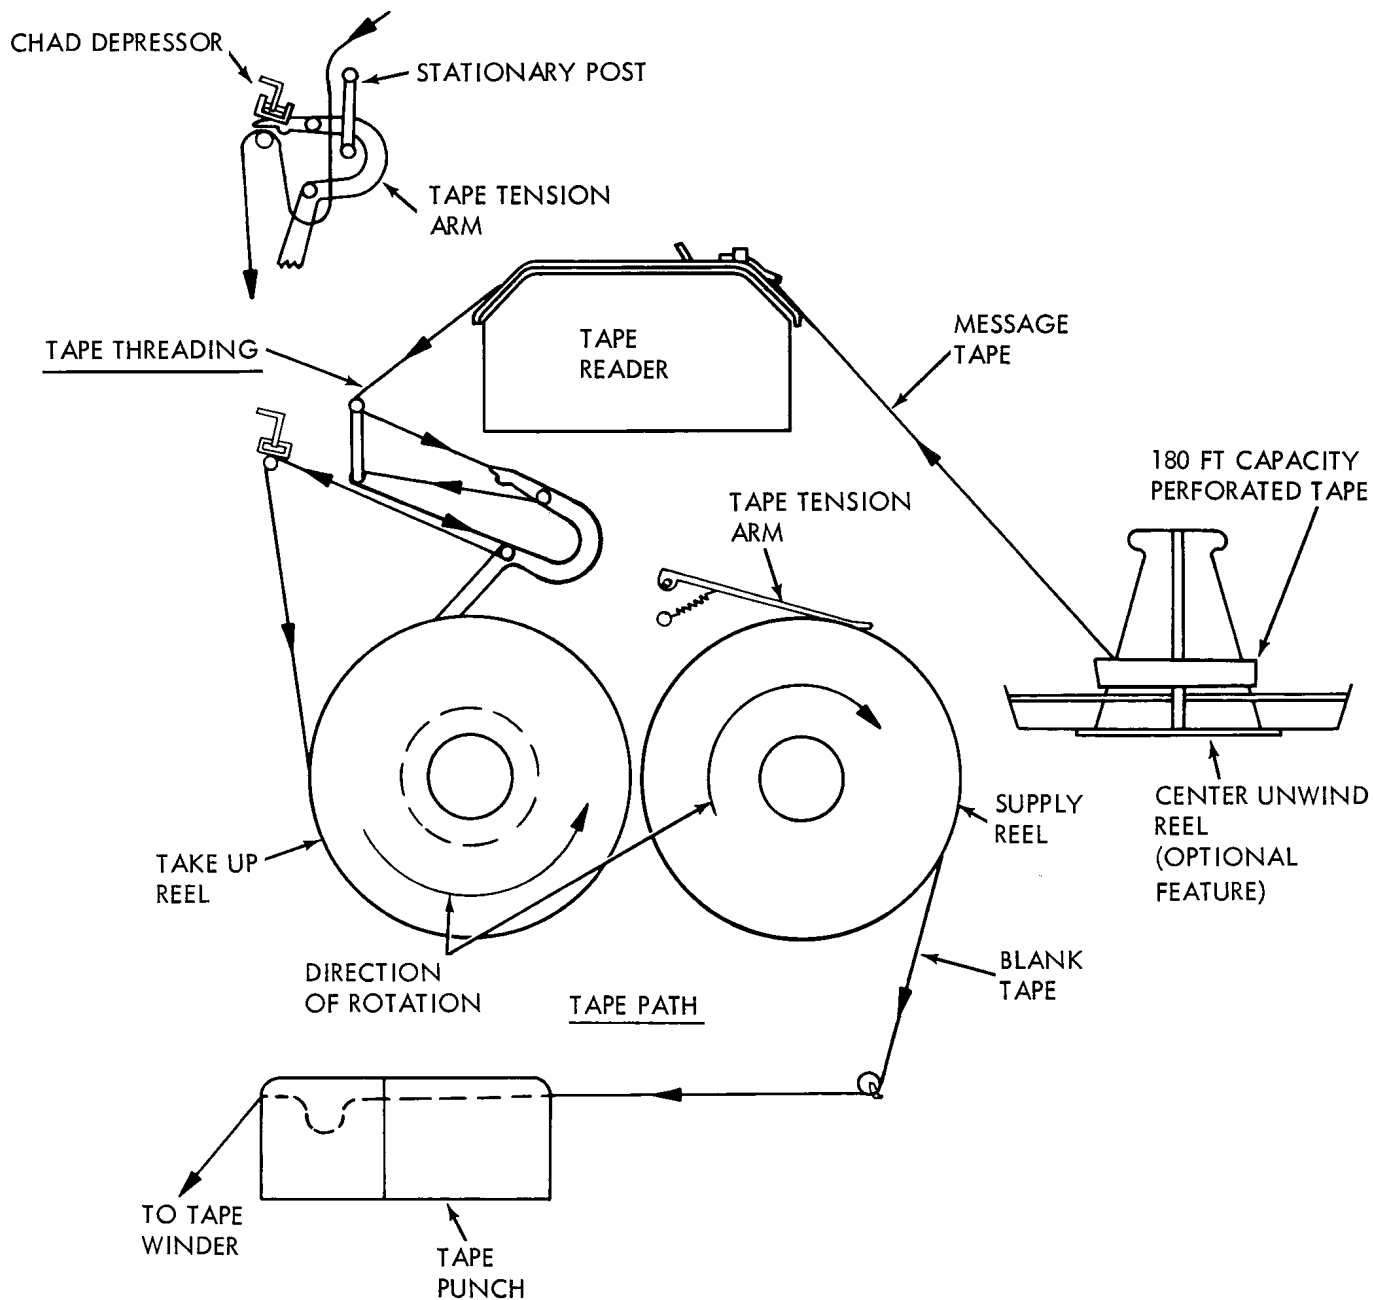

Figure 9 - Tape Routing - Tape-to-Tape
2.10 Install a reel of one inch (1") wide tape on the tape supply reel and thread the tape as shown in Figures 9 and 10.